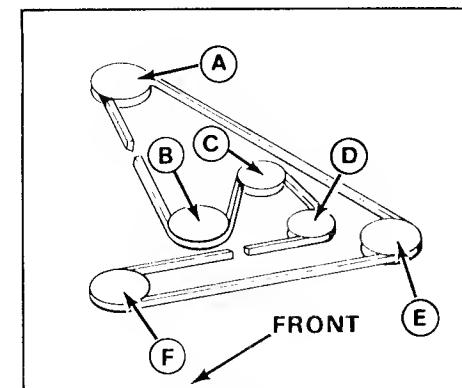

Figure 30. Belt Pattern - 42" Mower
5. Install the new belt on the pulleys. The belt pattern is shown in figure 30. Notice that the "V" side of belt drives the V-pulleys and flat side of belt rides on the flat idler pulleys. Be sure there are no twists in the belt.